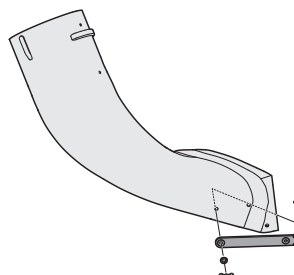

Figure 20
1. Install the rubber chute strap (723-04008A) onto the discharge chute elbow using clevis pin (711-05063), washer (736-0204) and bow-tie cotter pin (714-04040) from hardware pack 689-02201. See Figure 20.